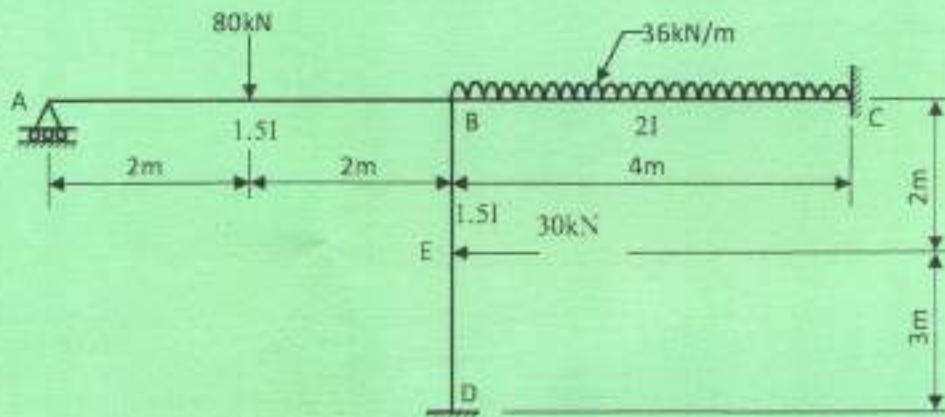

Figure 2
3. Using the moment distribution method, analyse the frame shown in figure 2, and hence sketch the bending moment diagram indicating the values at critical points. (20 marks)